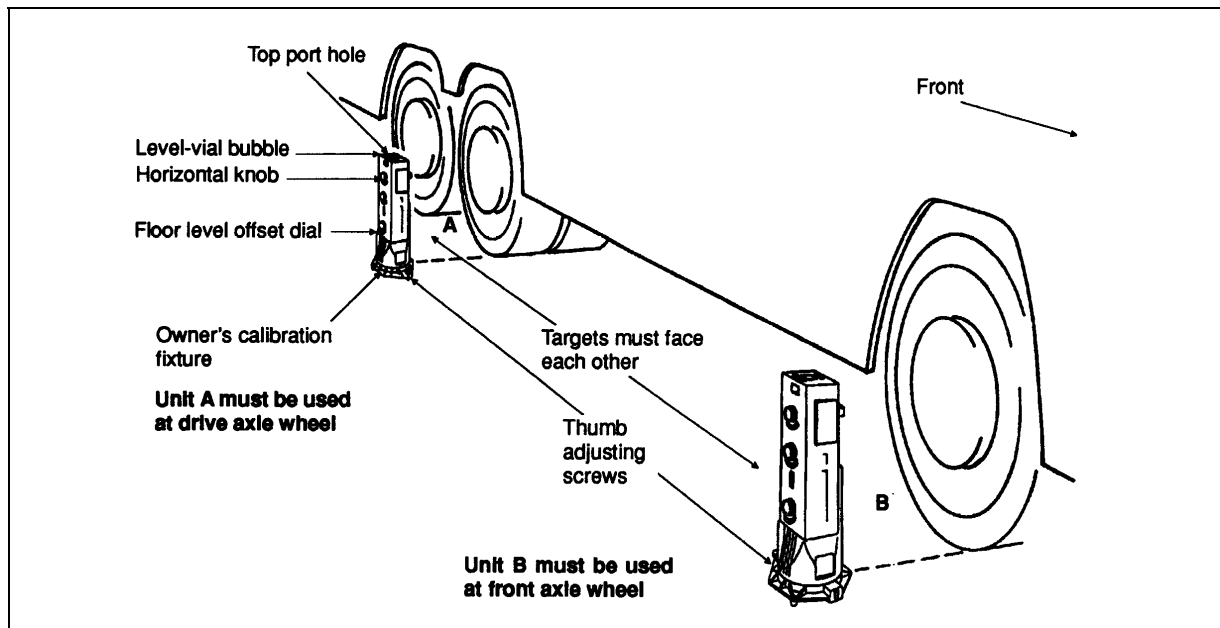

FIGURE 40: HEADLIGHT ALIGNER
2. Fix one (1) calibration fixture to each aligner.
3. Install aligner in center of each wheel on one side of vehicle. Unit B must be installed beside the front axle wheel with its viewing port facing rearward, and unit A beside the drive axle wheel with its viewing port facing forward. See figure 40 for more details.